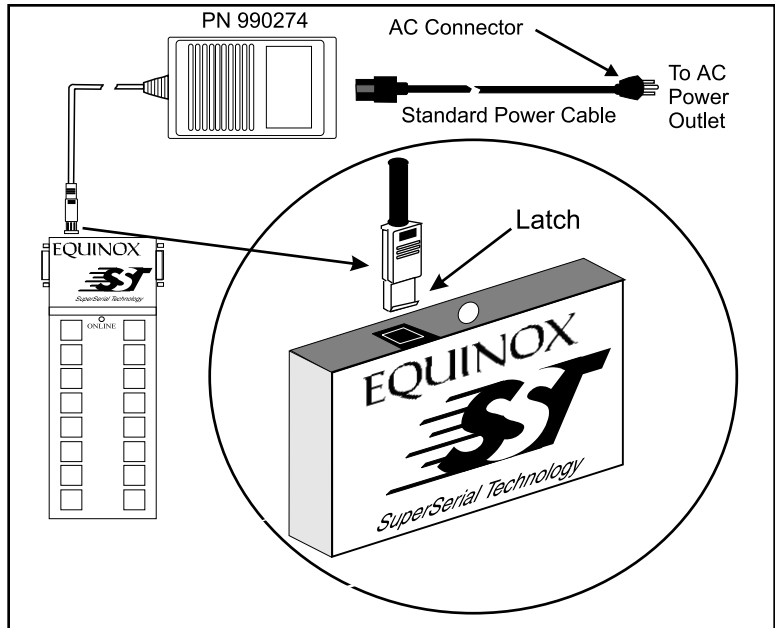

Figure 3-7. Model PS-4 Power Supply.
PS-4 (PN 990274), Figure 3-7, is a universal power supply and automatically adapts to the input power voltage (100 - 250 VAC, 47 - 63 Hz).
2. Insert the DC output cable plug into the Expansion Module connector with the latch of the plug facing the front of the Module (see Figure 3-7 insert). Press down firmly until a snapping sound is heard.